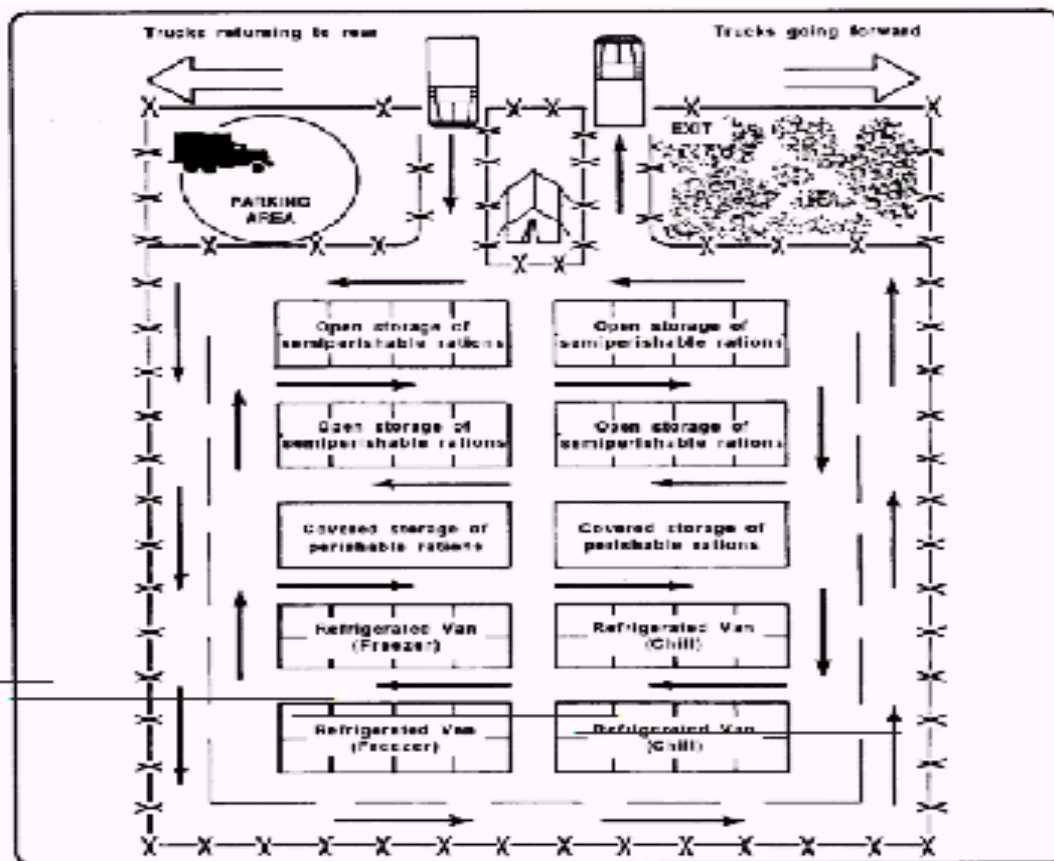
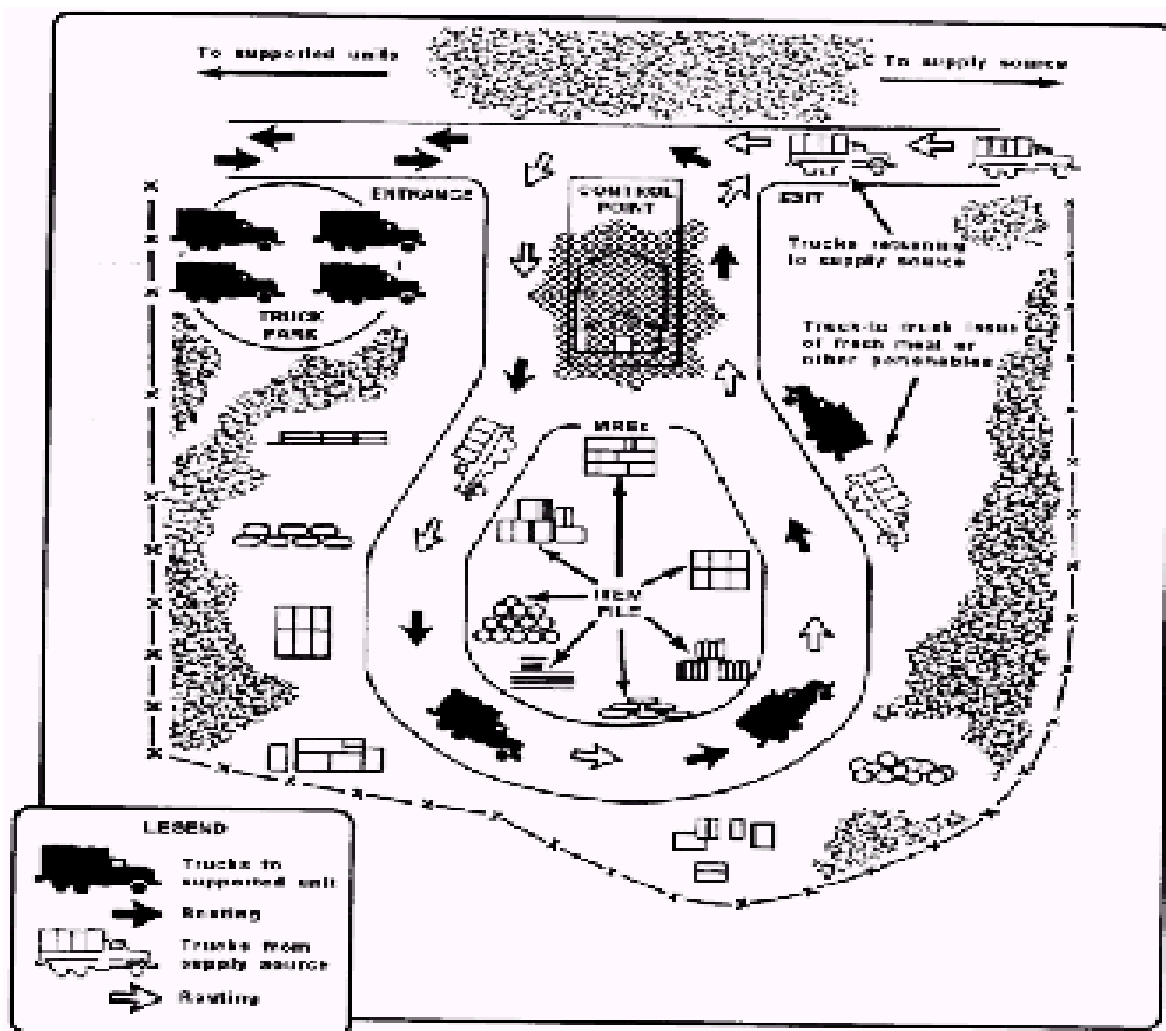

Figure 5-1. Rear Area Class I Supply Point
Figure 5-2. Forward Area Class I Supply Point
a. **Size.** The site should be large enough to handle the estimated volume of class I supplies and equipment. A parking area is needed for vehicles stopping at the checkpoint, loading and unloading supplies, bringing in and taking out refrigerated trailers, and MHE working the stacks. Class I sites must be large enough to afford some dispersion of supplies to lessen the chance of enemy destruction. Use dunnage to keep the supplies off the ground and tents and tarpaulins to provide protection buildings are not available. Ensure lighting is adequate for safety and security. Fence the perimeter and establish checkpoints at each exit and entrance, Figure 5-1 shows the suggested layout for a rear area class I supply point. Figure 5-2 shows the suggested layout for a forward area class I supply point.